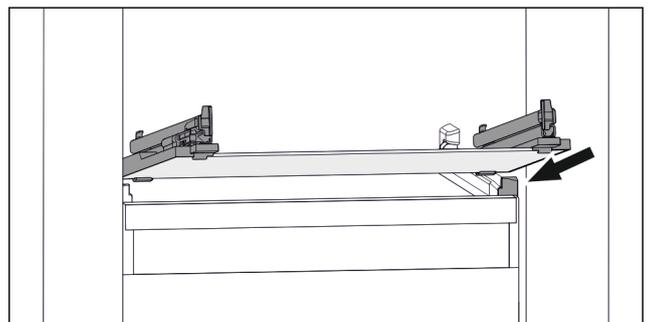

Fig. 101 Example illustration of glass shelf
- ▶ Position glass shelf at an angle behind the stoppers. (see Fig. 101)